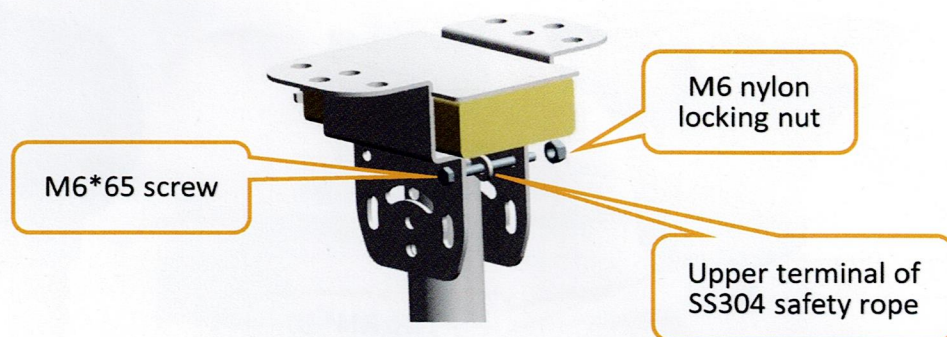

Figure. 3.4
④ Connect the safety rope by inserting a M6\*65 hexagonal screw through the holes beneath the controller frame, and passing the upper terminal of SS304 wire rope which is extended from the middle of the extension tube (see Figure 3.4). Then use flat washer, spring washer, and a M6 nylon locking nut to fasten